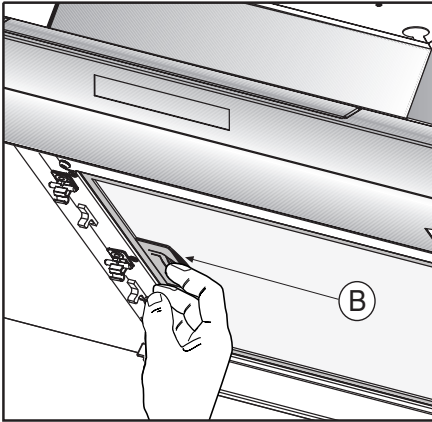

Fig.6
• Before starting to fix the hood, disconnect the anti-grease filter B (Fig.6) for easier appliance handling. Before this operation, perform the following steps depending on the model purchased:
Pull handle **B** as shown in Fig.6.